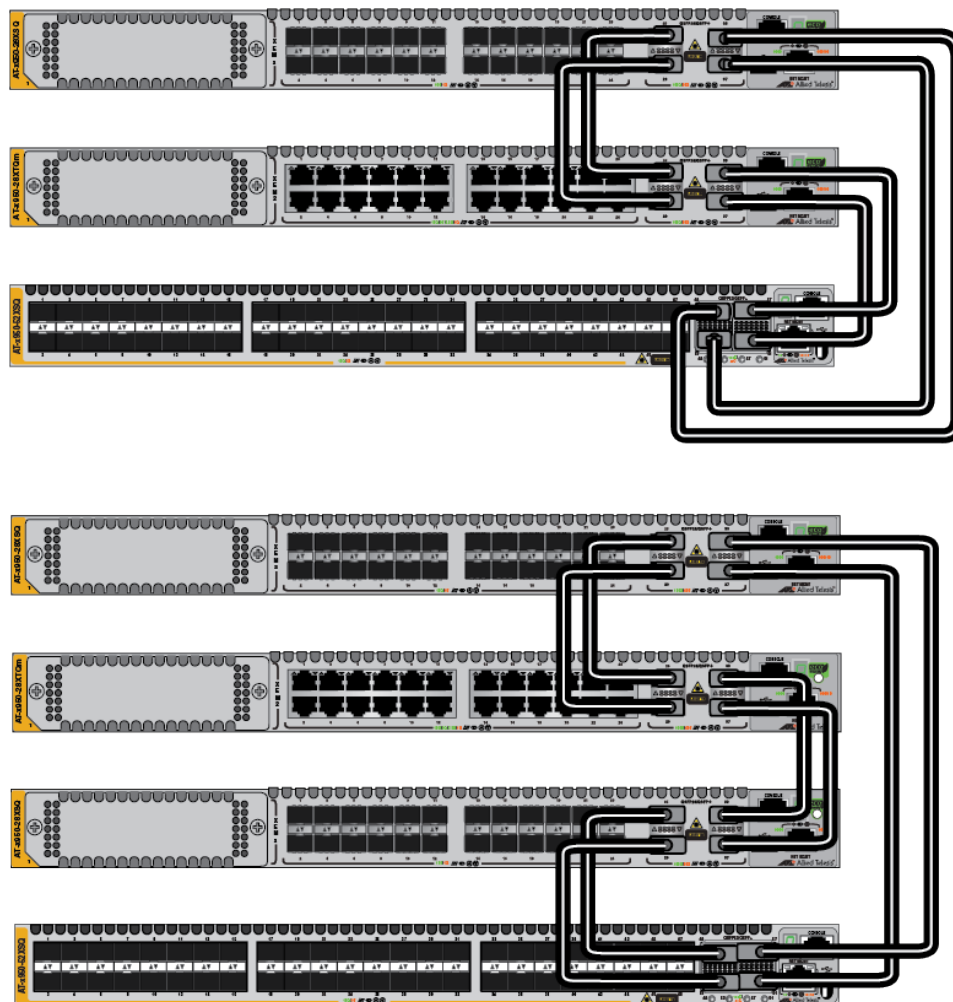

Figure 31. Stack Trunk Examples of Three or Four Switches with 40Gbps Links
- ❑ To build stacks of three or four switches, Allied Telesis recommends using all four ports. Examples are shown in Figure 31. Please note how the top and bottom switches are connected to form a loop in the trunk.